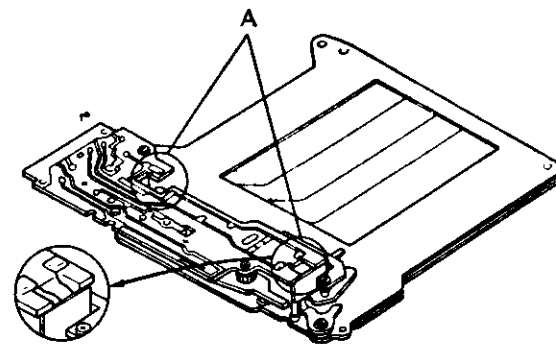

Fig. 49
2) Shutter (see Fig. 49)
A section in Fig. 49 should not be touched with fingers and hung with anything, because Mg coil is exposed.